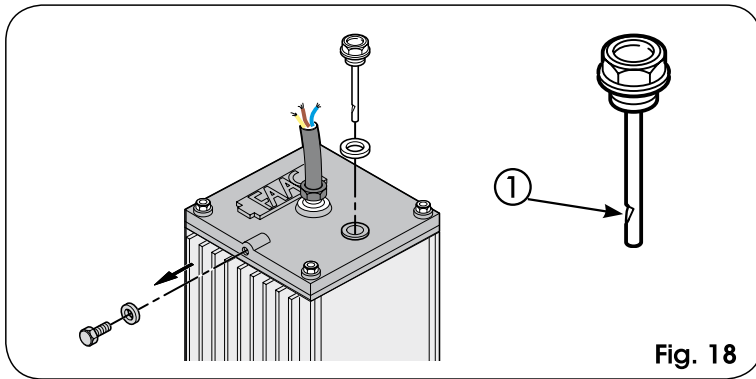

Fig. 18
Periodically check the quantity of oil inside the tank. An annual check is sufficient for low to medium use frequency; for heavier duty, check every 6 months. The level must not drop below the notch of the control panel (Fig. 18 ref. ①).
7. Remove the two pistons (Fig. 19 ref. ② and ⑤) from the upper and lower fittings and reverse their position, fit the rocker (Fig.18 ref. ①), against the opening travel mechanical stop.